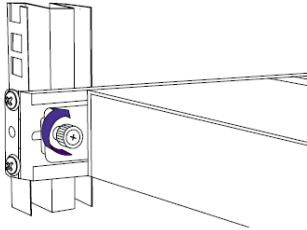

Figure 16 Tightening the thumbscrews
- Secure the Switch 116 to the rail by inserting the thumbscrews through the bracket and into the rail and tightening them, see Figure 16.